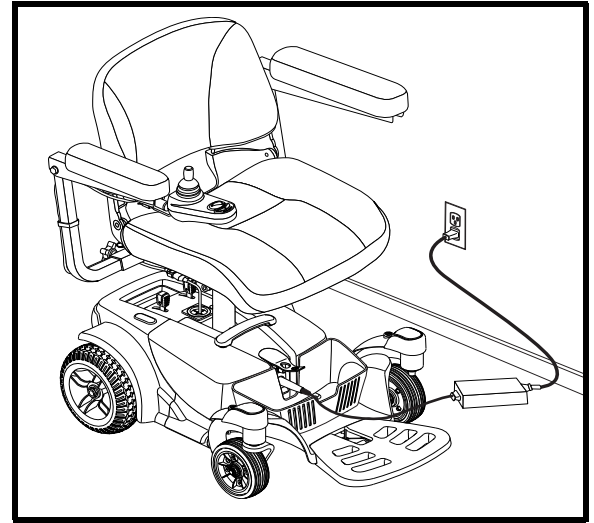

Figure 21. Battery Charging
3. Plug the off-board charger into the battery box charger port. See figure 21.